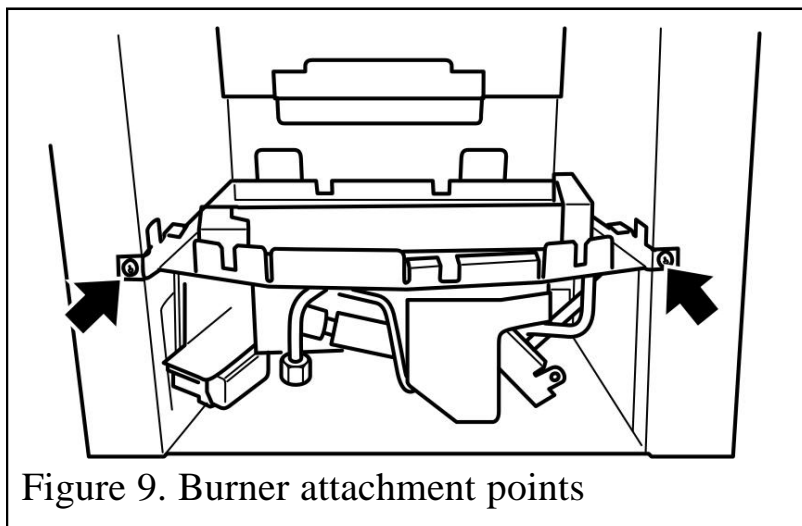

Figure 9. Burner attachment points
2. Detach the burner unit from the hotbox by removing two screws (See figure 9). Lift the burner unit clear.